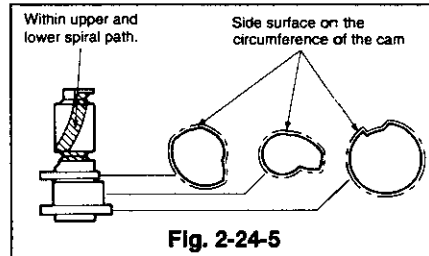

Fig. 2-24-5
- 5 Apply grease (G) [859D055O50] to the area shown in Fig. 2-24-5 of the new pinch cam.